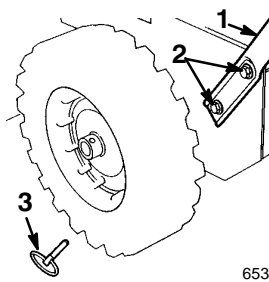

Figure 2
2. Remove the axle pins from both wheels (Fig. 2) and slide the wheels outward on the axle approximately one inch (2.5 cm).
5. Secure the left handle with two capscrews and curved washers until they are finger tight (Fig. 2).